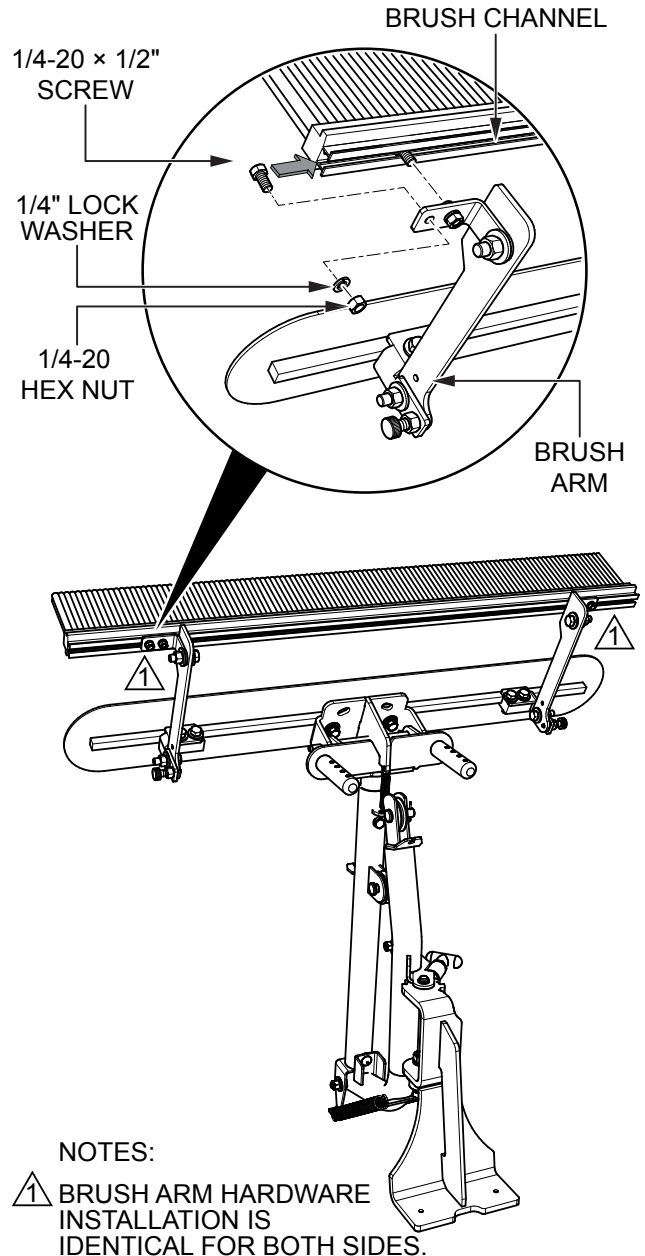

Figure 24. Fresno Brush Installation
2. Slide the 1/4-20 × 1/2" screws that were removed in step 1 into the brush channel as shown in Figure 24.
3. Align the brush mounting hardware with the brush arm (Figure 24). Once correctly positioned, secure the brush arm to the brush channel by tightening the 1/4" hex nut. Repeat for the opposite side.